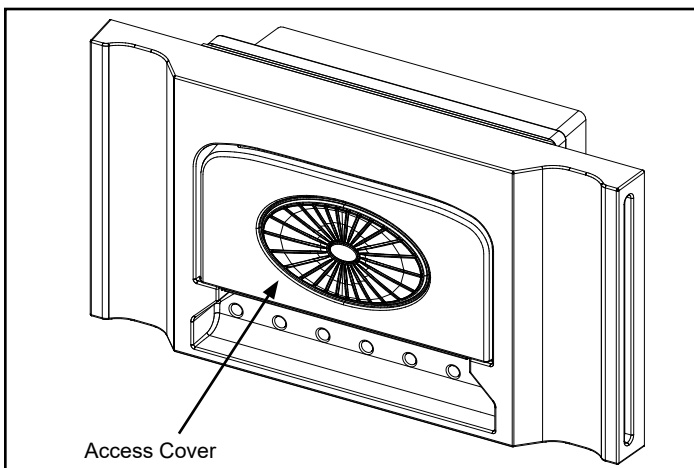

Figure 5.8 - Locate access cover.
1. Locate the access cover at the rear center of the unit, Figure 5.8.